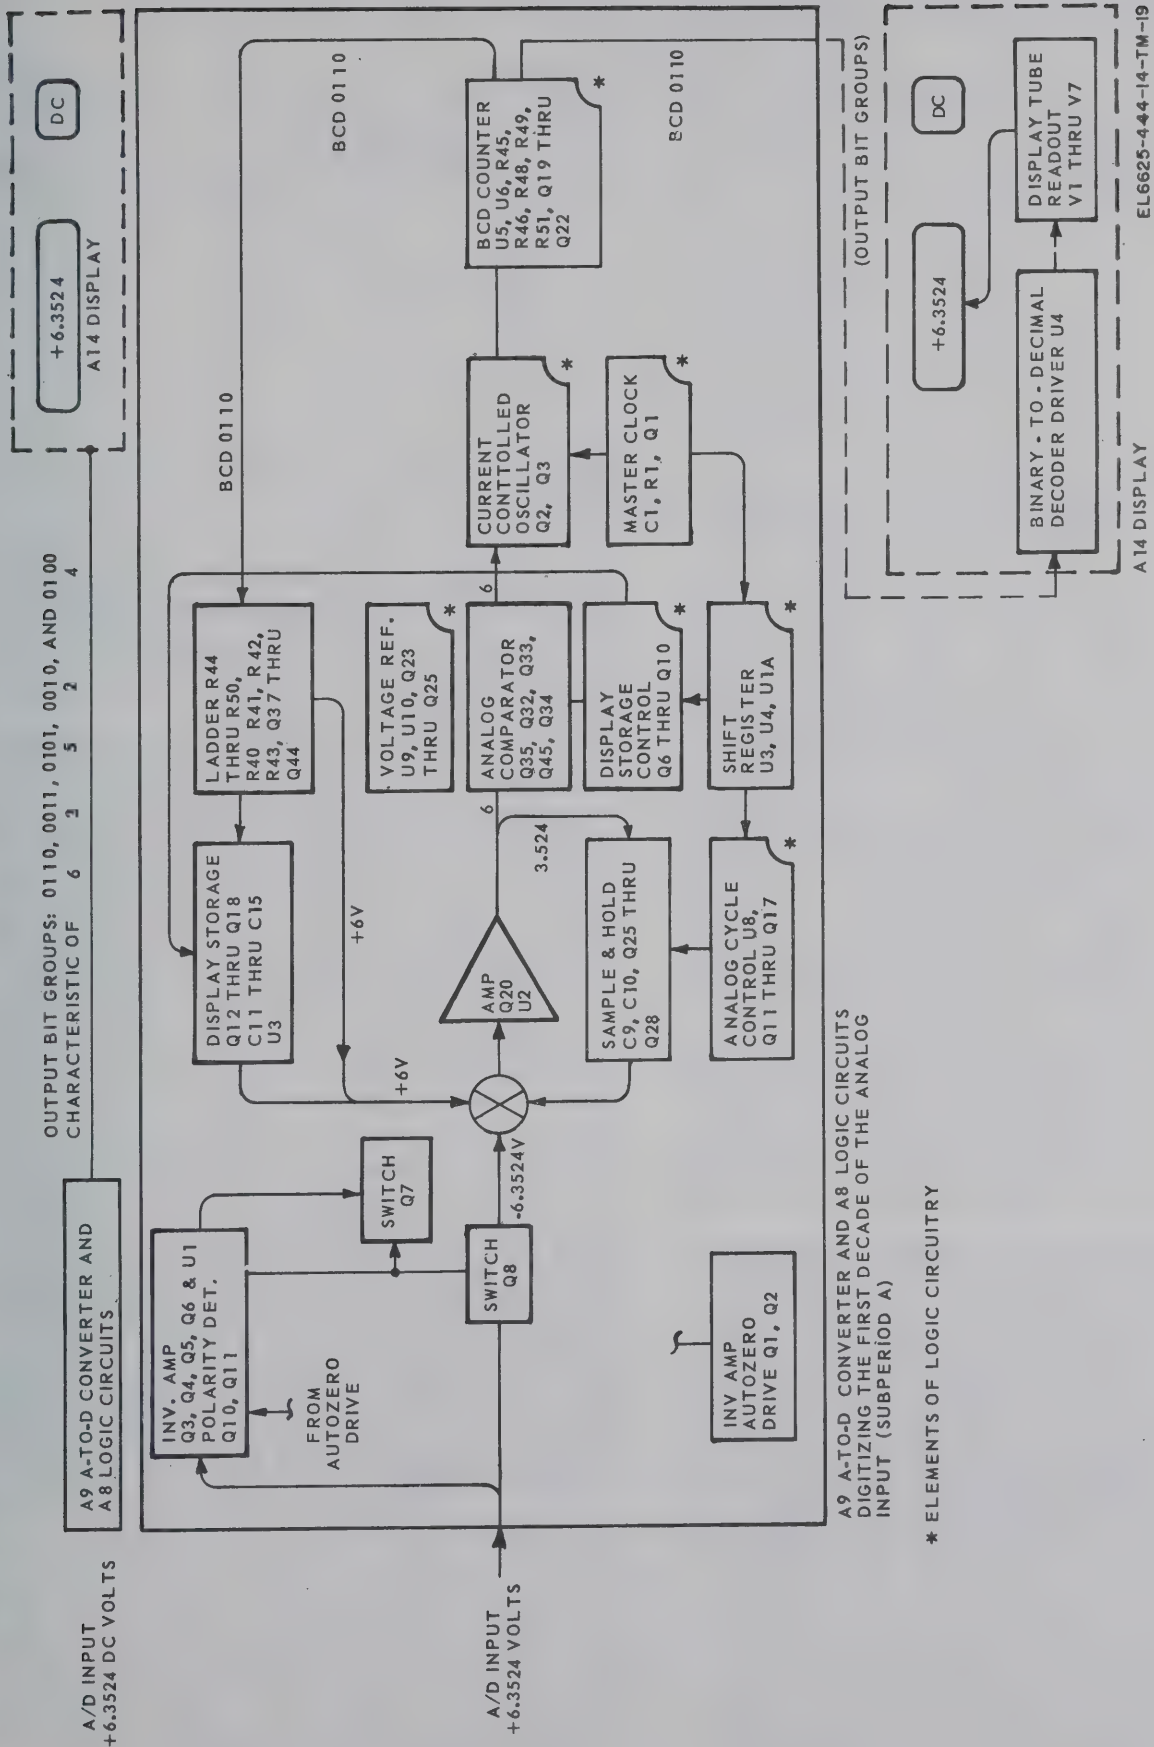

Figure 5-4. A/D converter block diagram.
a. The A/D converter (A9) and logic circuits (A8) are discussed together in the following subparagraphs because any discussion of the analog-to-digital conversion process must include elements of both circuits. The basic conversion and logic circuitry involved in the conversion process is shown in figure 5-4. Also shown is an arbitrary input voltage that is the equivalent to the inverted, unknown voltage applied across the input jacks of the voltmeter. The output of the converter is shown, applied to the following stage, the display (A14) and consists of binary coded data bit groups that are serially emitted from the converter and applied to the display circuits for decoding and serial display. The basic purpose of the combined converter-logic circuitry is to convert the analog voltage input (given as +6.3524 dc volts in figure 5-4) serially by decade to binary coded bit groups, one bit group per decade.